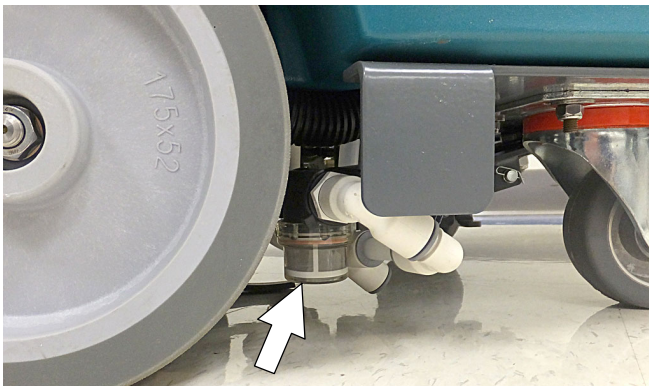

FIG. 98
2. Empty the water from the solution tank filter located under machine. Replace filter (Figure 98).